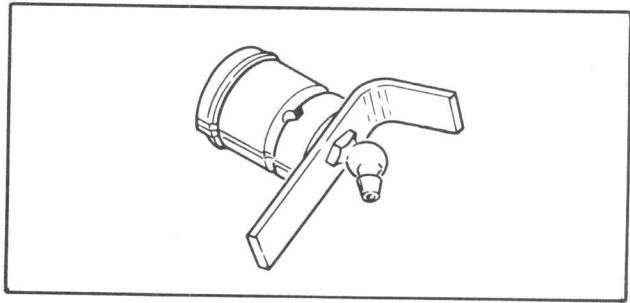

Figure 3-4. HD-33006 Wheel Bearing Greaser
6. Grease needle bearing with special GREASE, Part No. 99855-80 using HD-33006 WHEEL BEARING GREASER shown in Figure 3-4.